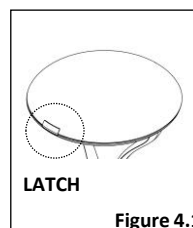

Figure 4.1
- Push on the latch, and pull up the cover to access the electrical compartment. [Fig 4.1]